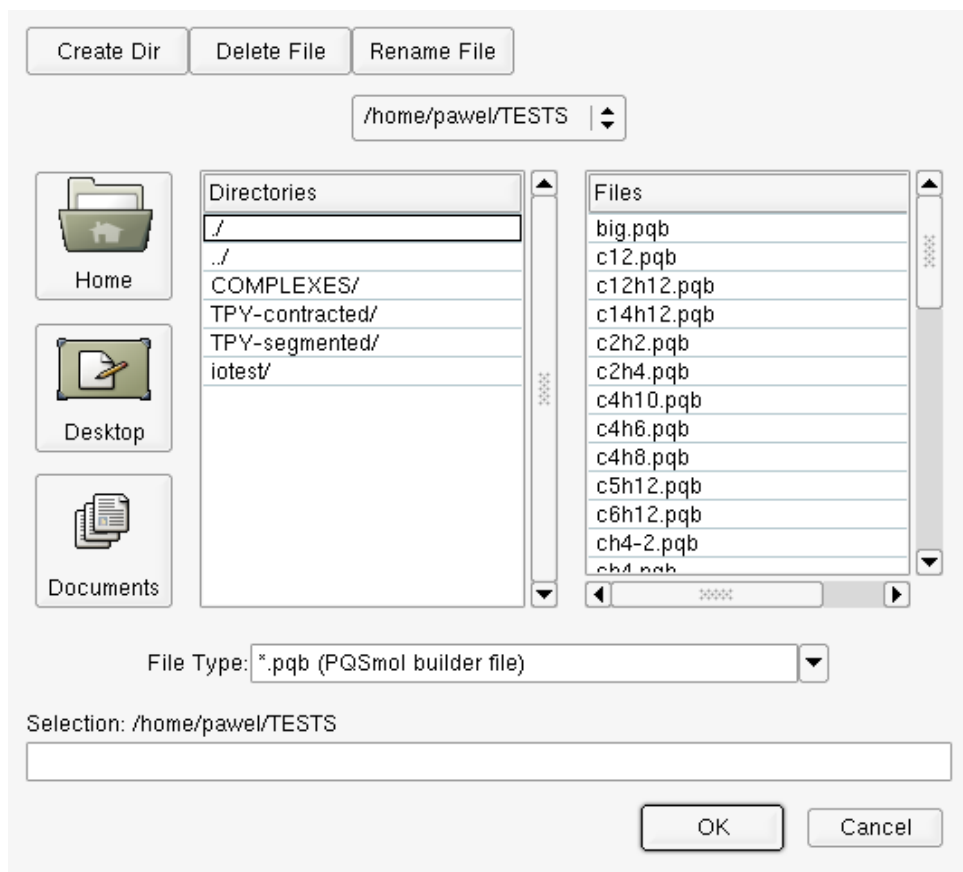

Figure 2.23: File Open dialog
- **Open Existing** opens an existing build file. The File Open dialog, Figure 2.23, lets you browse directories for a specific file. The file list is filtered so that only the pqsmol build files, with the .pqb extension, are displayed. You can change the current browse directory by selecting entries in the *Directories* list on the left and a specific file can be selected from the **Files** list on the right side.